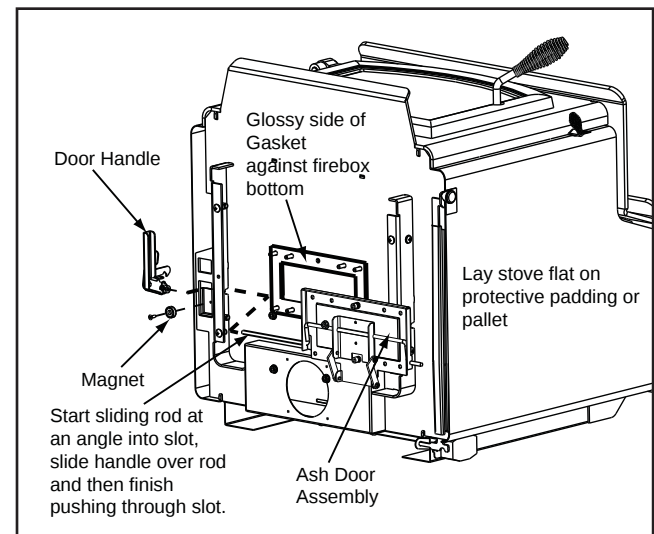

Figure 21.2
It is important the gasket is not put on upside down as it could compromise its sealing capabilities. Figure 21.2.
Slide the ash door over the 8 screws protruding from the bottom of the stove. Secure with nuts and washers provided. **Figure 21.2.**
6. Install magnet using a Phillips head screwdriver. This magnet will hold the door handle in an open position which in turn holds the ash door open so ashes can be brushed into the ash drawer. **Figure 21.2.**
- Follow steps 1 through 6 on **page 21**. See also **Figures 21.2 and 21.3**.